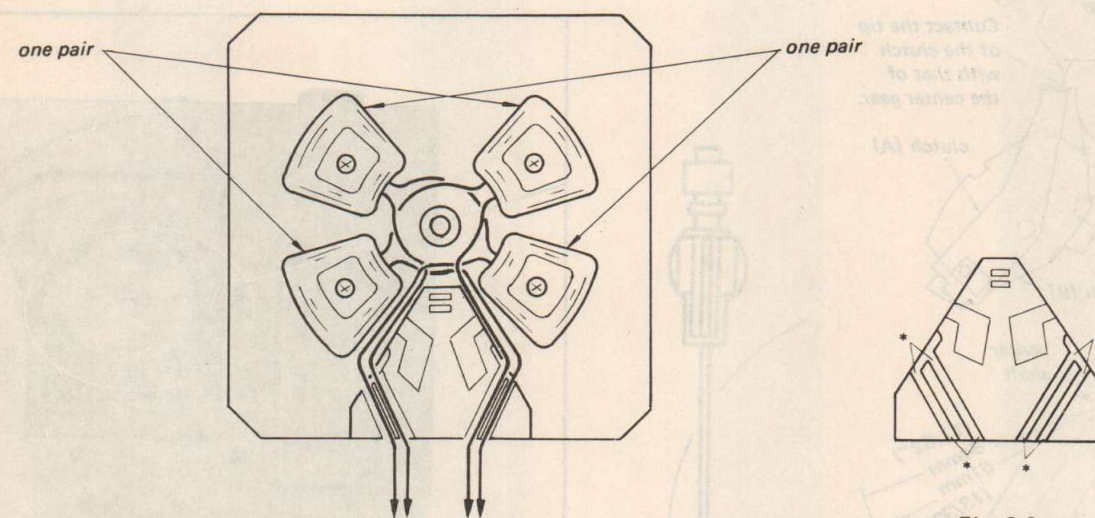
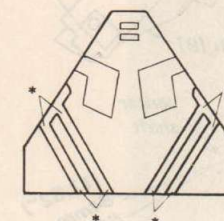

Fig. 2-8
Fig. 2-9
- c) Lay the leads of the coils as shown in Fig. 2-8 and fix the leads in the groove between the portions marked by \* in Fig. 2-9.